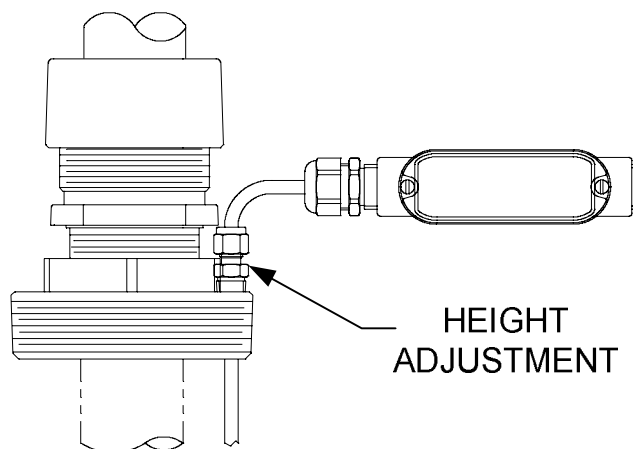

Figure 15: Auxiliary float switch height adjustment
**IMPORTANT NOTE:** Once the desired switch float position is verified or corrected, the switch assembly is ready to be inserted in the tank with the LevelMaster. The height of the auxiliary switch can be adjusted later by loosening the nut on the fitting installed on the top side of the tank port bushing (Figure 15). The tubing can be pulled up providing a range of approximately 9 inches.